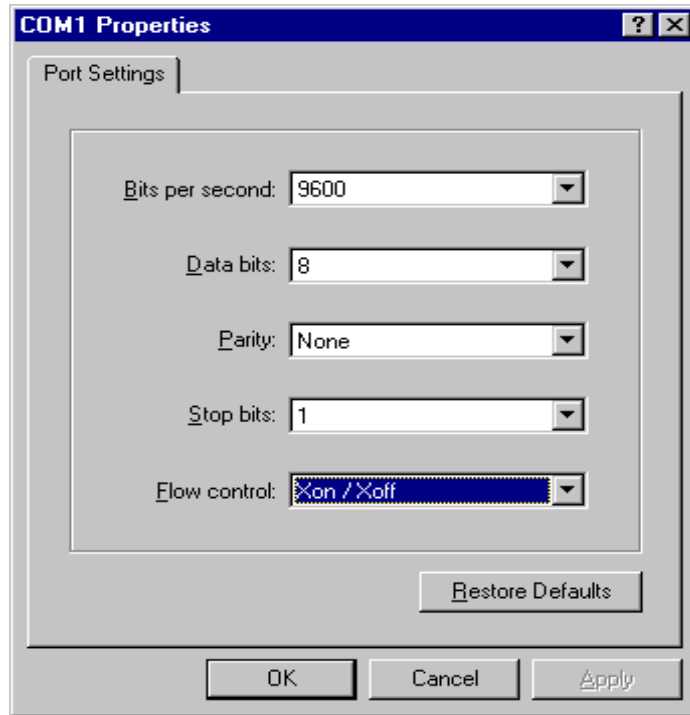

Figure 1-3
5. The COM1 Properties window will appear (Figure 1-3). Set the fields as follows: Bits per second to 9600 and Flow control to Xon/Xoff. Then press the OK button.